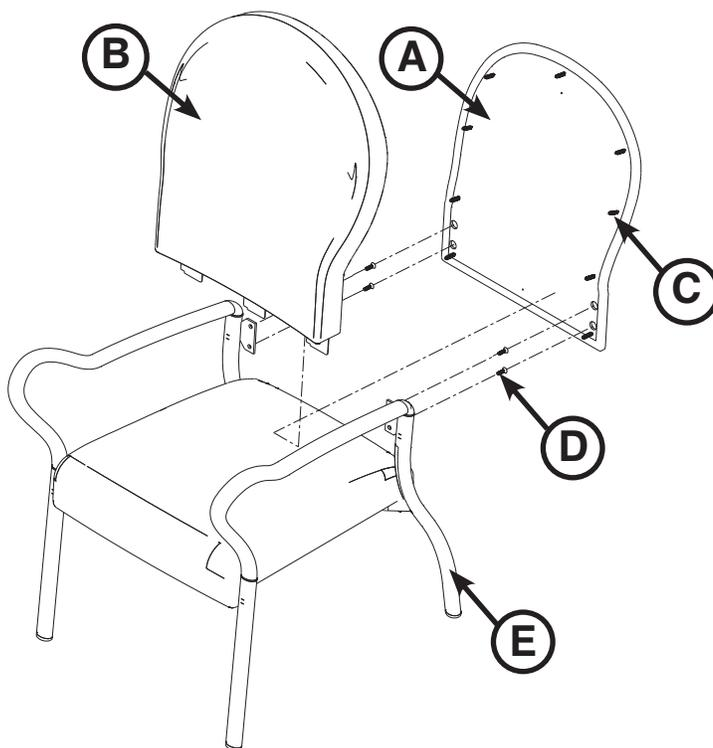

Figure 9: Back Replacement (Model 4853 shown)
1. Using a large slotted screwdriver, carefully remove the back panel (A) from the back cushion (B) (Figure 9).
Note: There are seven push rivets (C) for models 4850, 4851, and 4852 that secure the back panel to the back cushion. There are nine push rivets (C) for models 4853 and 4854 that secure the back panel to the back cushion (Figure 9).
2. Using a #3 Phillips screwdriver, remove the four screws (D) that secure the back cushion to the chair frame (E) and remove the back cushion (Figure 9). Discard the back cushion, back panel, and screws.